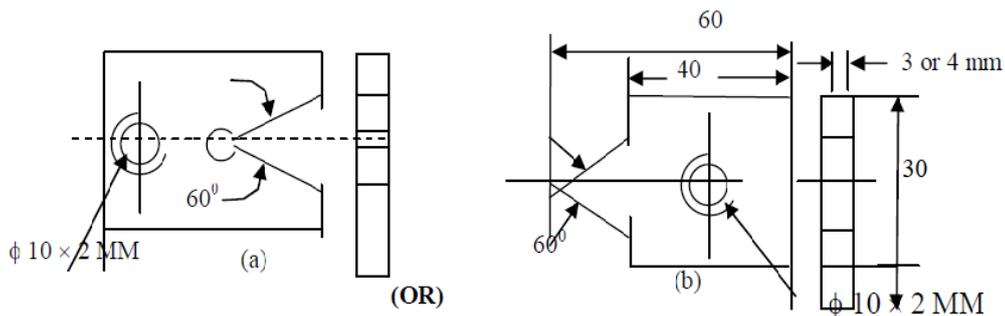

Fig.1: Job for fitting practice
- i) FITTING (in 2 days or 6 hours); Making a gauge from MS plate as shown in Fig.1.